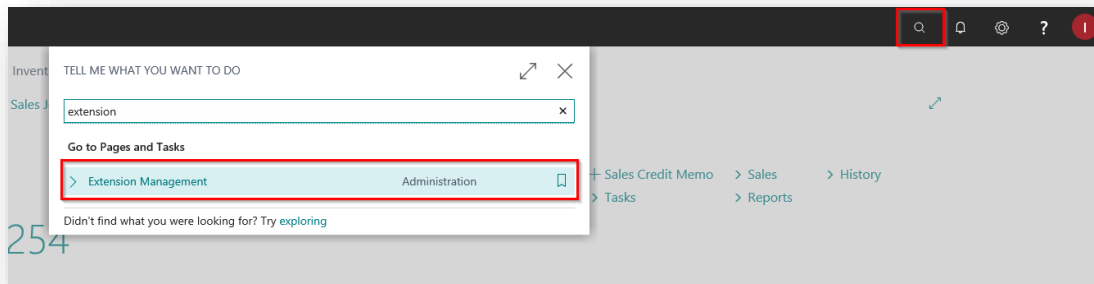

Figure 8-1
1. Open your Dynamics 365 Business Central Web Client and use the **Tell Me** to search for **Extension Management** (*Figure 8-1*).